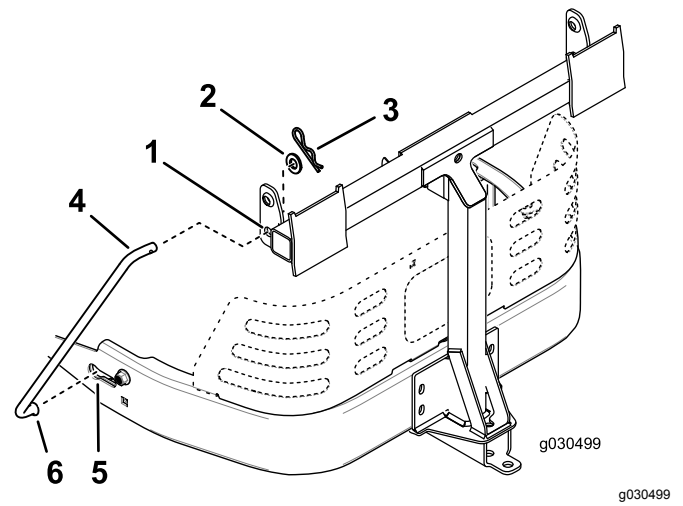

Figure 18
4. Install a bent, flared end of a rod into the keyed slot in the left side of the machine frame, and move the rod rearward to seat it in the frame (Figure 18).
5. Insert the bent ends of the rod into the attachment mount as shown in Figure 18 and secure the end of each rod with a washer and hairpin cotter.